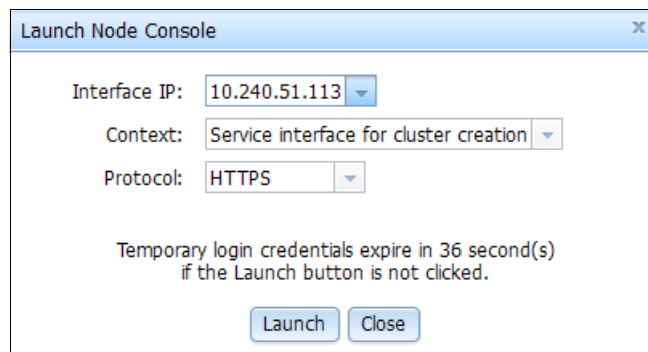

Figure 4-9 CMM - Launch Node Console
3. A browser window displays the IBM Flex System V7000 Storage Node system startup panel. The Service IP address displayed will be one that has been allocated by your DHCP server as shown in Figure 4-9.
After clicking **Launch** in Figure 4-9, you have an option to Create a new system or Add to an existing system as shown in Figure 4-10. We select **Create a new system**, then click **Next**.